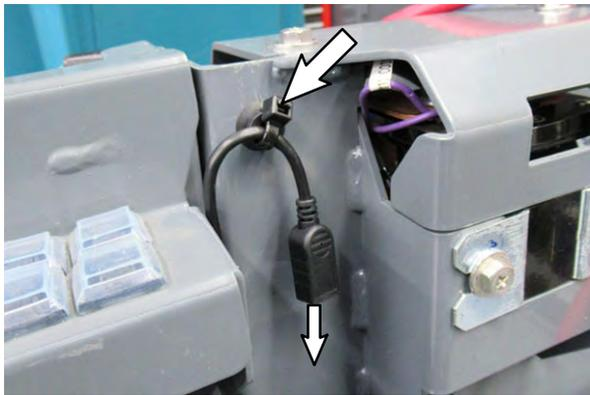

FIG. 30
20. Use a cable tie to secure the USB harness (18) to the actuator support weldment. To help prevent moisture from getting into the connector, be sure the USB cable connector is pointed down. (Fig. 30)